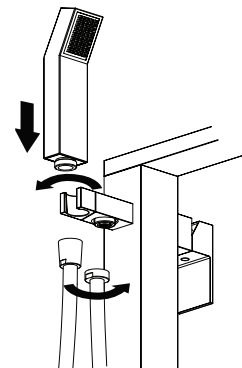

Figure 16
13. Connect the hose and hand shower wand to the shower holder connector as shown in Figure 16. Check for leaks.